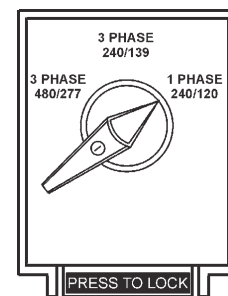

Figure 47. Voltage Selector Switch
4. Place the voltage selector switch in the desired voltage position (Figure 47).